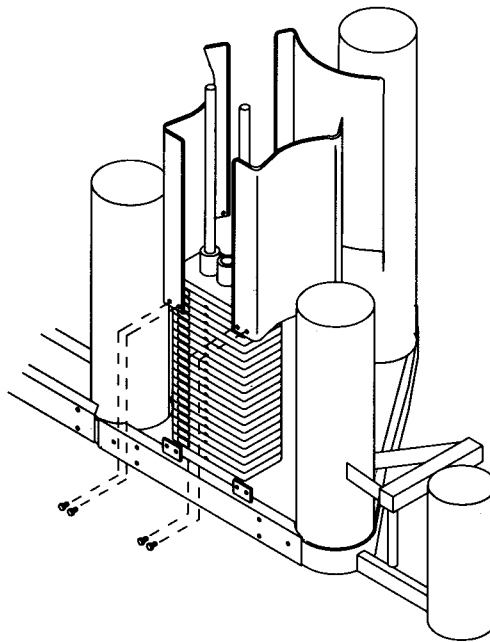

FIG. 9
20. Attach the three weight stack guards (3/8-16 x 1/2 hex screw, Qty: 12).(Fig. 9)